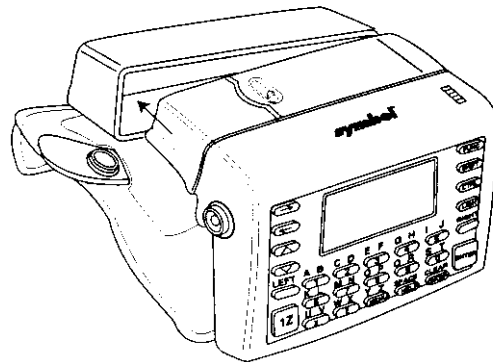

Figure 5-4. Sliding WWC 1000 into Sleeve
4. Place the WWC 1000 wrist computer onto the wrist mount by sliding it into the protective sleeve (Figure 5-4).